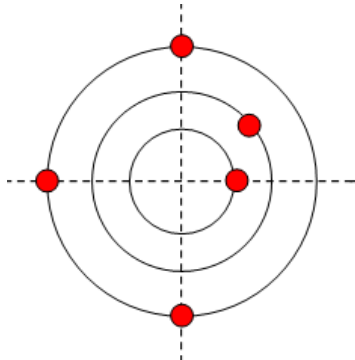

Figure 1 – Velocity vectors (expectations).
- Draw what you think the **velocity** and **acceleration** vectors would look like at the locations shown in Figures 1 and 2. Indicate higher velocity and acceleration with longer arrows.